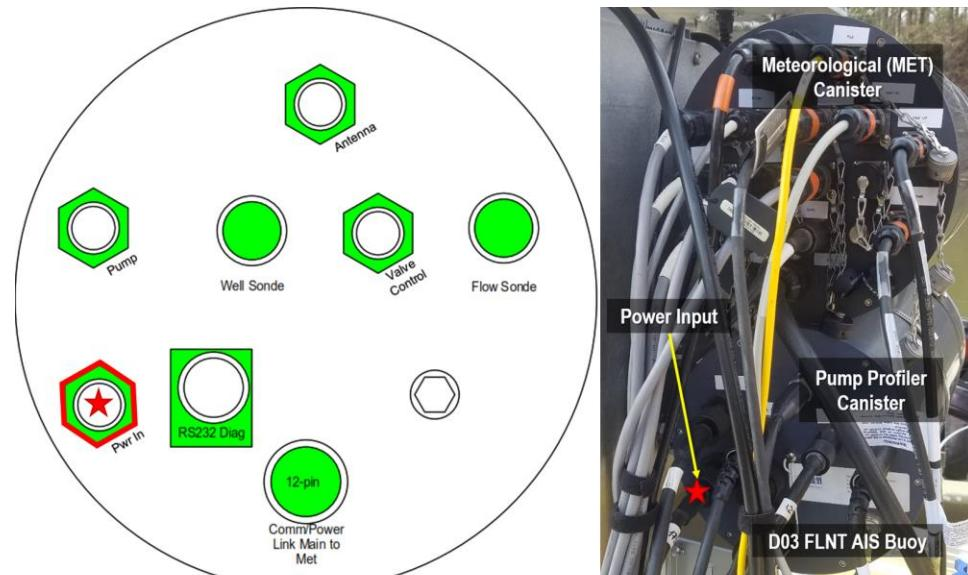

Figure 54. Pump Profiler Canister | Power Input Cable Location in Red with Star Symbol
2. For sensor refresh, power down the Multisonde sensor and pump subsystem by removing the power input cable from the canister (Figure 54).